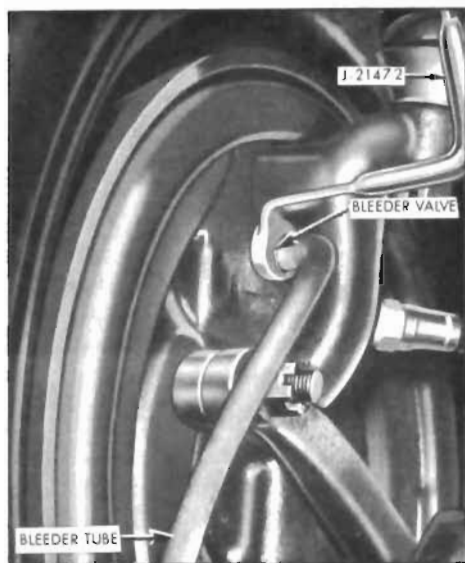

Figure 9-9—Bleeding Front Wheel Cylinder
2. Install bleeder Wrench J-21472 on bleeder valve. Slip a brake bleeder tube over ball of wheel cylinder bleeder valve. Place lower end of bleeder tube in a glass jar that is partially filled with clean brake fluid. Position end of tube so that it will remain submerged under fluid during bleeding operation. Unscrew bleeder valve 3/4 of a turn. See Figure 9-9.
3. Install bleeder Wrench J-21472 on bleeder valve. Slip a brake bleeder tube over ball of wheel cylinder bleeder valve. Place lower end of bleeder tube in a clean glass jar. Unscrew bleeder valve 3/4 of a turn. See Figure 9-9.